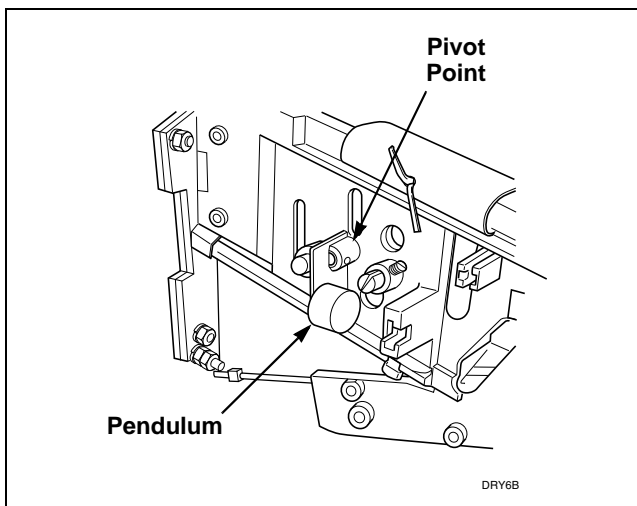

Figure 66
- i. Check coin return pendulum to verify it swings freely. If pendulum does not swing freely, spray pendulum pivot point with Teflon based lubricant and move pendulum back and forth two to three times. An additional application of Teflon based lubricant may be necessary to ensure that pendulum swings freely. Refer to *Figure 66*.